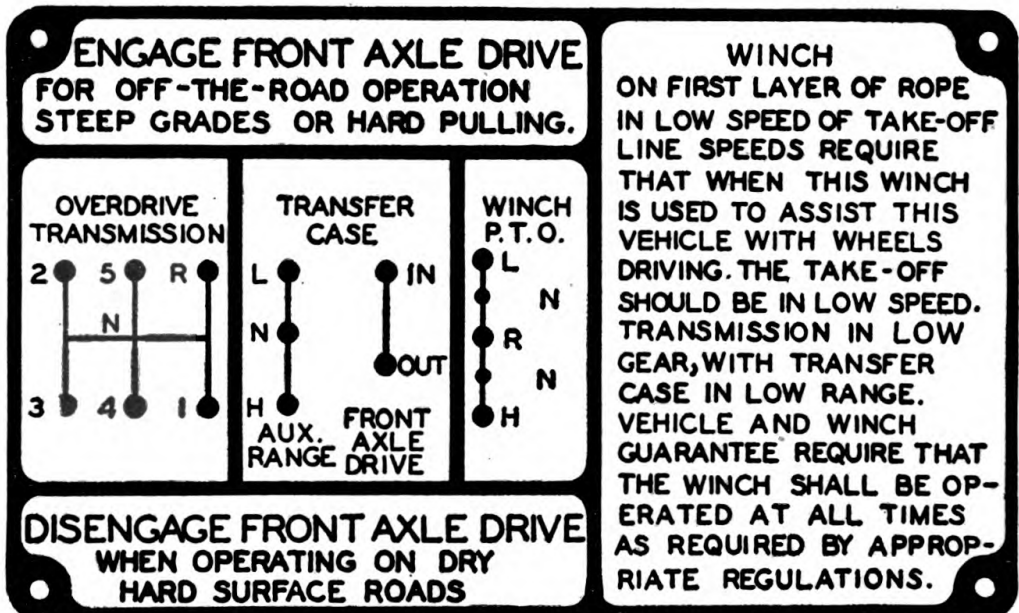

FIGURE 18.—Transmission, transfer case, and power take-off shifting arrangement plate.
c. Now point out the transmission and transfer case shift arrangement plate (fig. 18) and explain that it is for the guidance of the driver in learning the various positions of the gearshift levers.